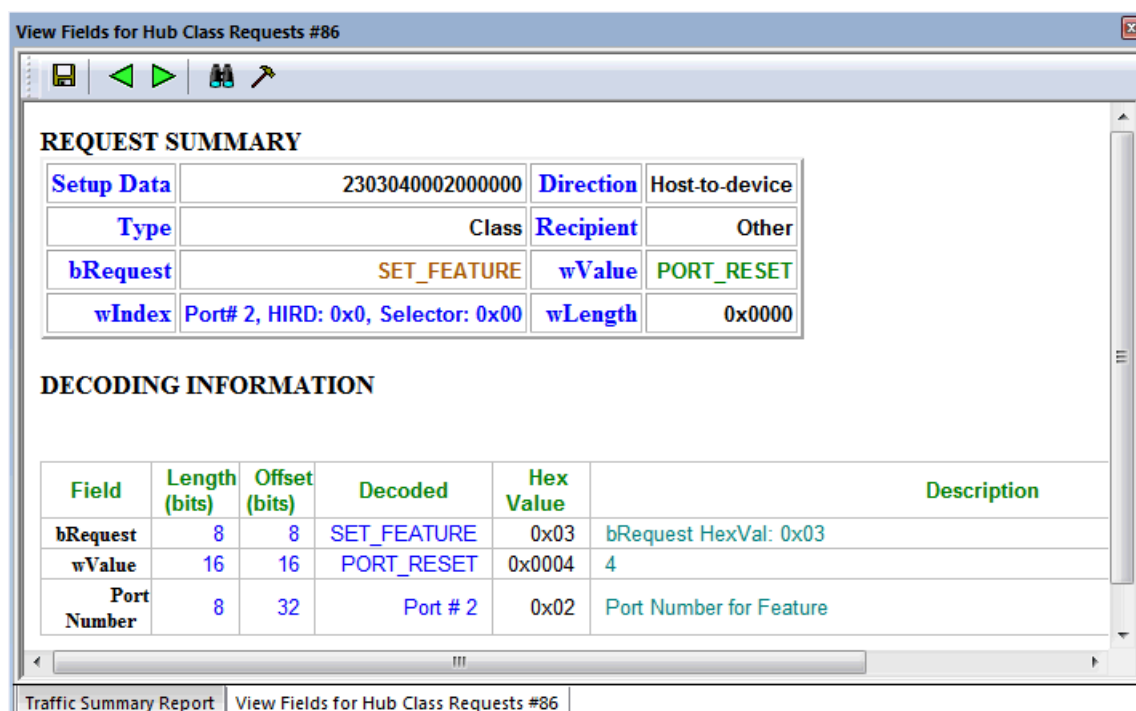

Figure 8.9: View Fields for Hub Class Requests Dialog
1. From the USB Device Request menu, select **Decode ... Request** to display the View Fields for ... Class Requests text box (see Figure 8.9 on page 201).